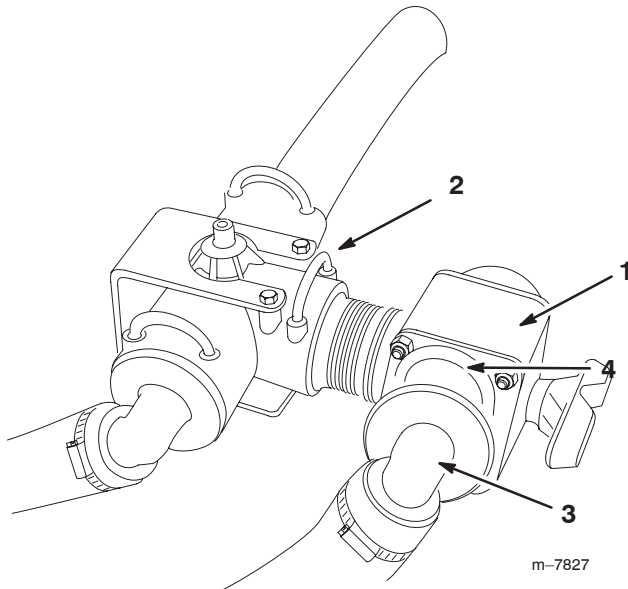

Figure 5
4. Install the new control valve into the open port on the supply tee and secure it with a new retainer (Fig. 5).
5. Connect the boom hose you disconnected in step 1 to the open port on the control valve and secure it with the retainer you removed in step 1 (Fig. 5).